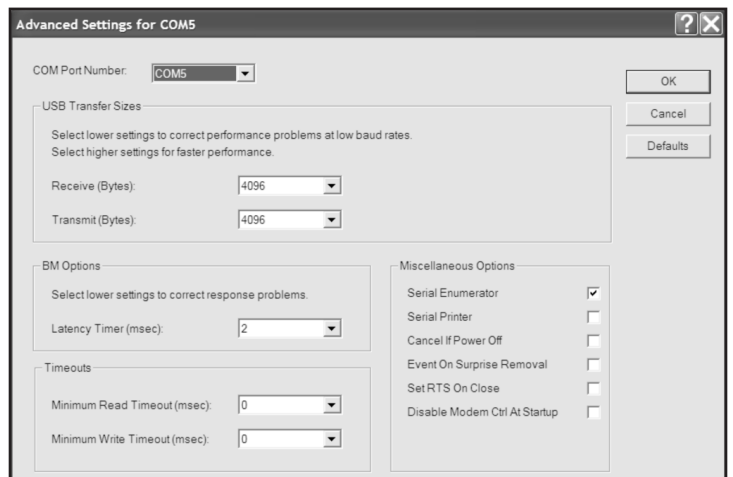

Figure 2
3. Click on Advanced. In most cases the wizard will have installed your new USB interface as COM4 or COM5. For optimum performance, you should change the BM Options Latency Timer to 2 msec as shown in **Figure 2, below**.